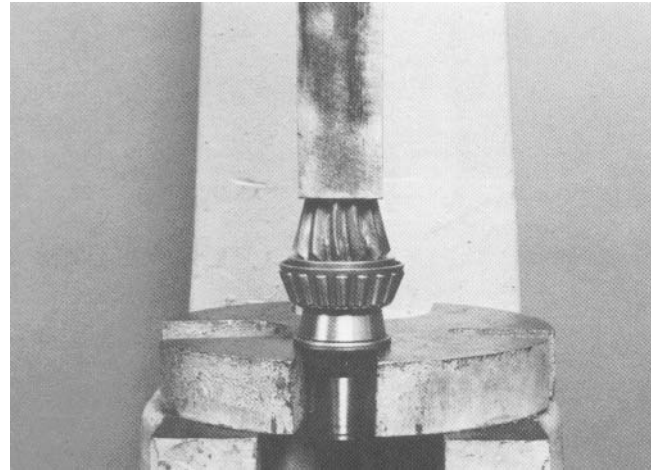

Figure 38
2. Press the pinion inner bearing onto the pinion drive gear. Support the bearing on the inner cup of the bearing ONLY WHEN INSTALLING (Fig. 38).